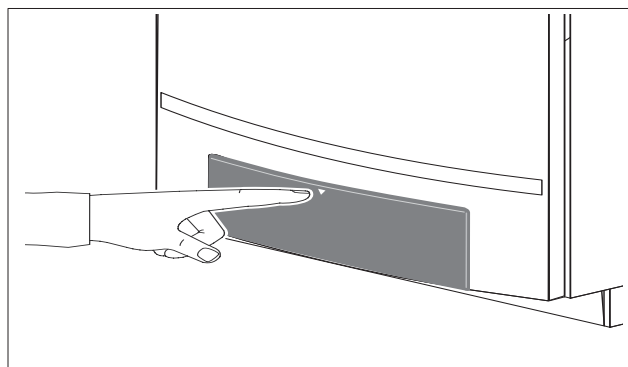

fig. 43 Opening the control panel
- Push the arrow on the control panel cover to open (fig. 43).